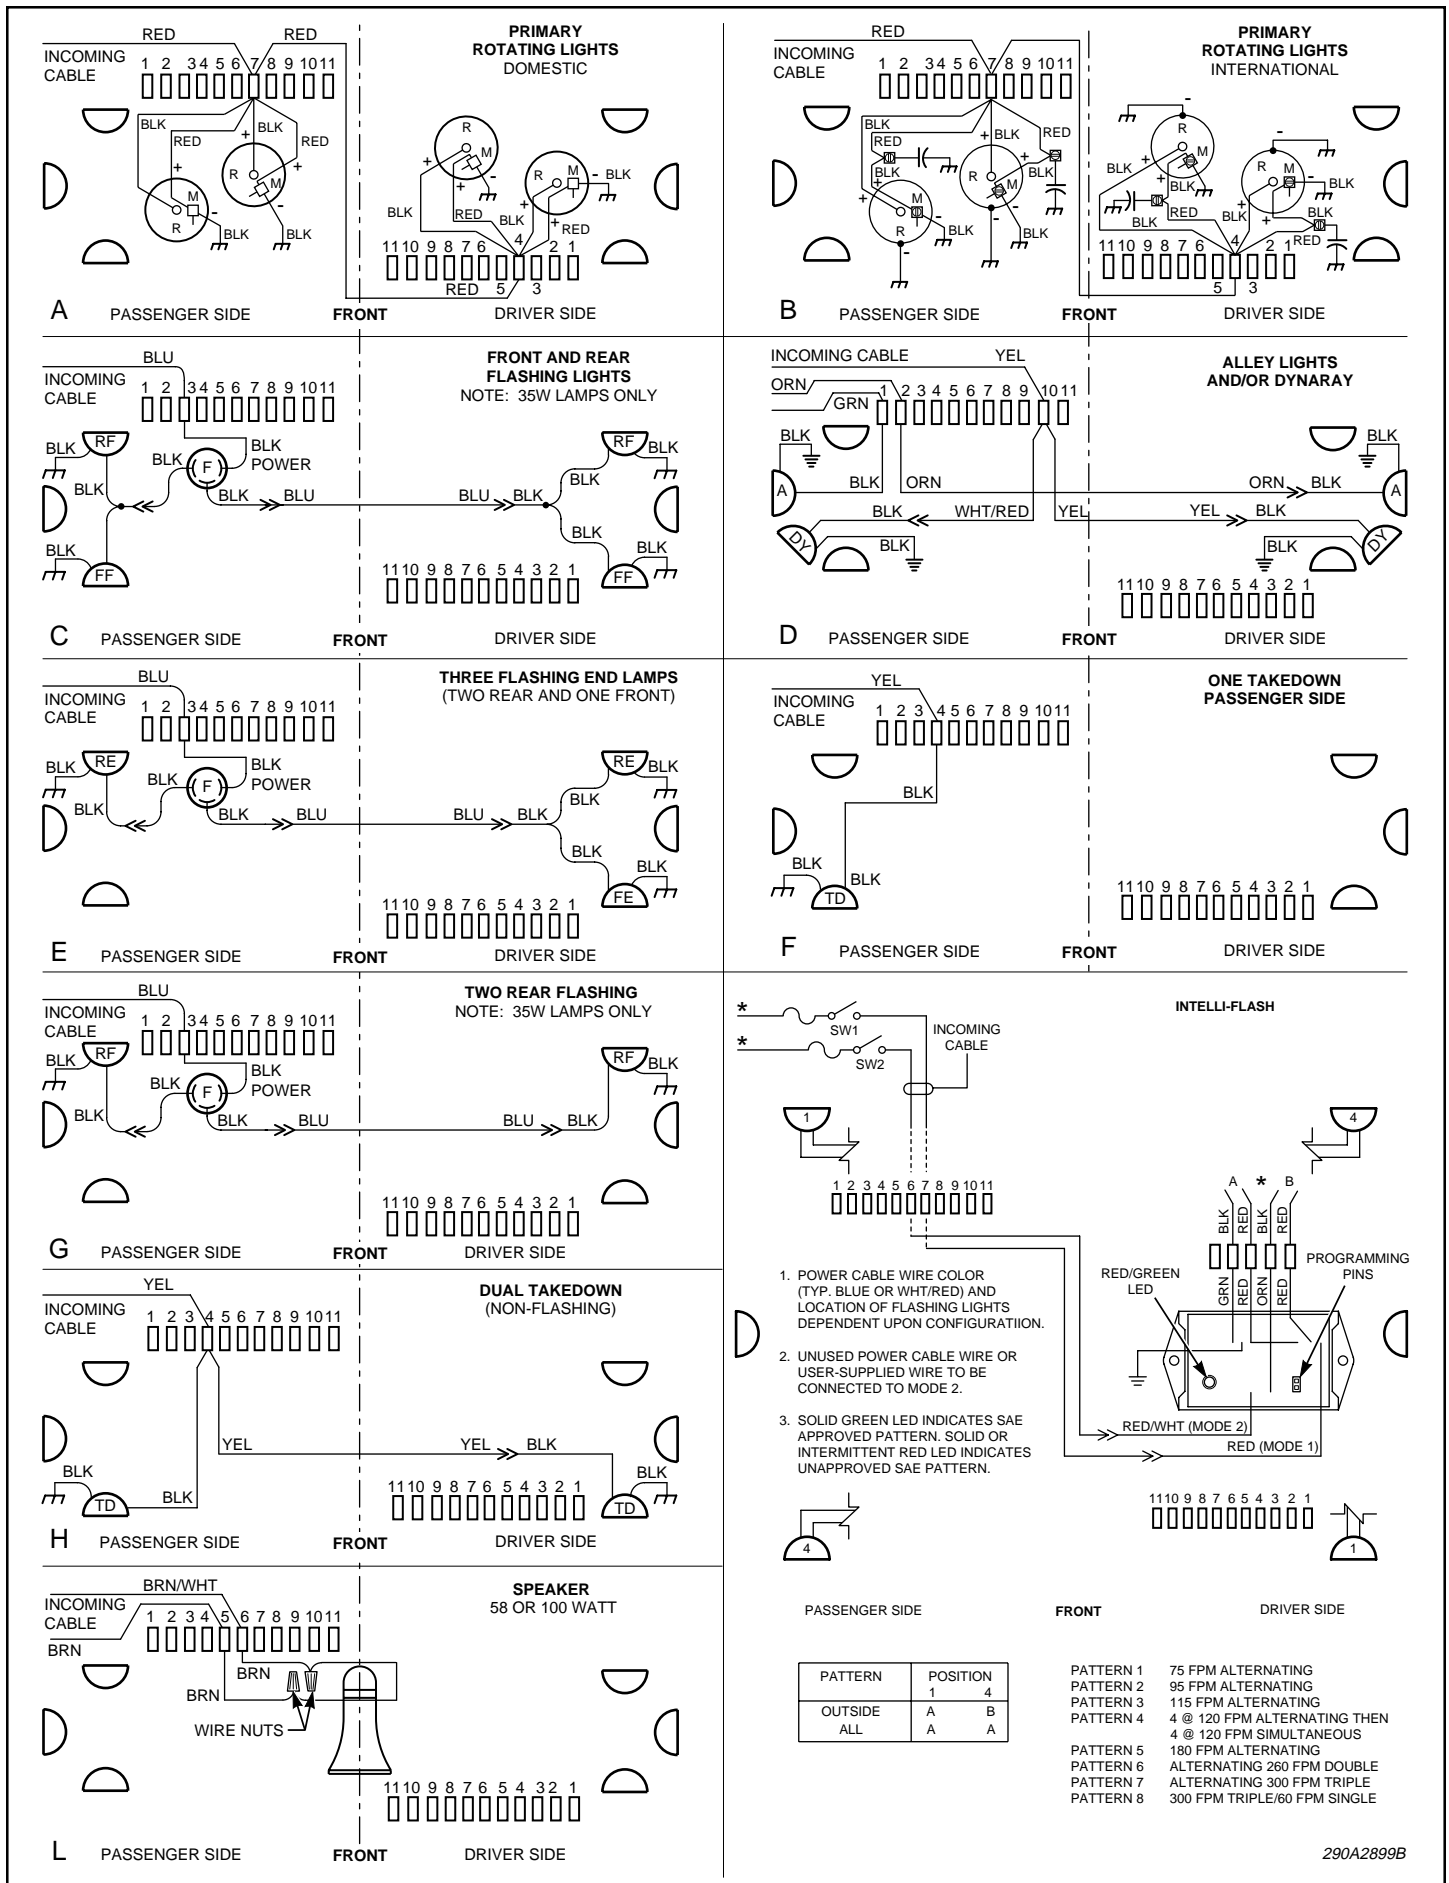

Figure 3.
B. Programming the Intelli-Flash (see figure 3).